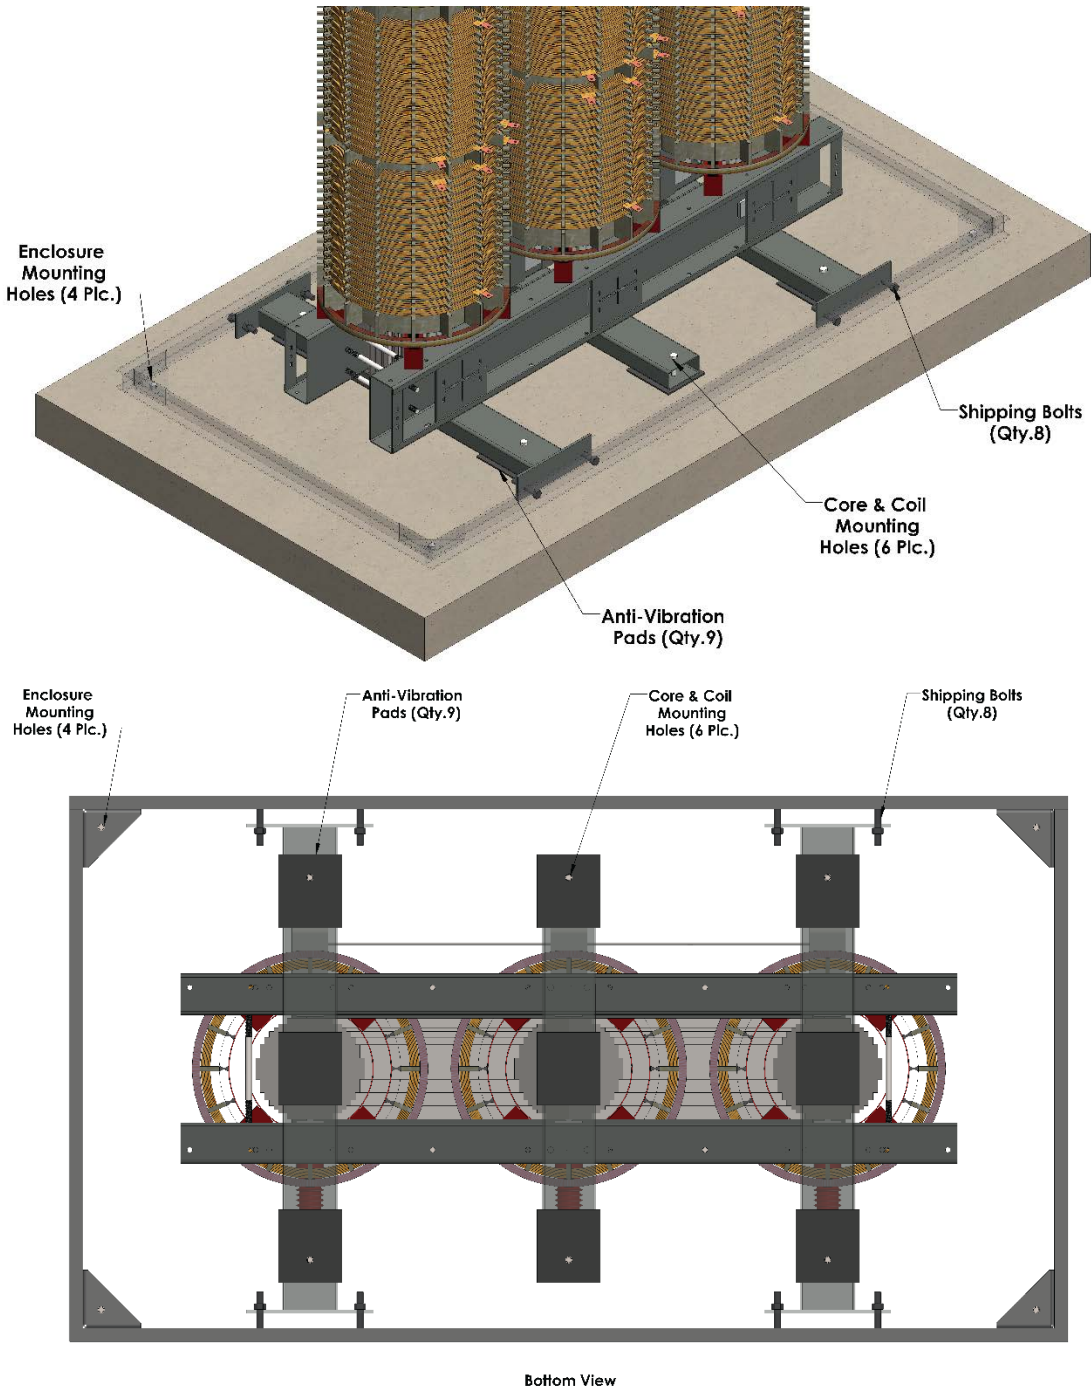

Figure 6: Standard Transformer Base Detail
Unless special provisions have been made on the transformer core & coil base, transformers should be solidly mounted to the floor using the mounting holes provided. The neoprene anti-vibration pads supplied should be positioned underneath the transformer base channels as shown in figure 6. Depending on the weight of the transformers, the unit will be supplied with either 6 or 9 pads. When only 6 pads are supplied, the pads should be located at the mounting holes. The shipping bolts
connecting the core & coil base channels to the enclosure are provided to ensure that the two cannot move relative to each other, and electrical clearances are not compromised while the transformer is being moved into its final location. They should only be removed once the core & coil and the enclosure have been independently secured to the floor, and should be stored for future use. See Figure 6 below for mounting details. For transformers with provisions for lifting, jacking, skidding & rolling, or for mounting on seismic springs and snubbers, an alternative base construction is supplied (See figure 7). Once the transformer has been moved into place, that the lifting cover plate should be replaced and secured in order to prevent dirt, or other objects from falling into the transformer. Refer to the factory approval drawings for details, or contact Rex Power Magnetics for any questions relating to the transformer mounting.
- B. Shipping bolts between core & coil base and enclosure should be removed to avoid vibration transferring from the transformer to the enclosure. (See figure 6)
Dry type power transformers supplied as core & coils, or installed in an open bottom enclosure are supplied with standard neoprene anti-vibration pads to be positioned underneath the core and coil base channel assembly. These anti-vibration pads reduce the transfer or vibration and noise from the transformer core to the mounting surface. Refer to figure 6 for proper location of these pads.